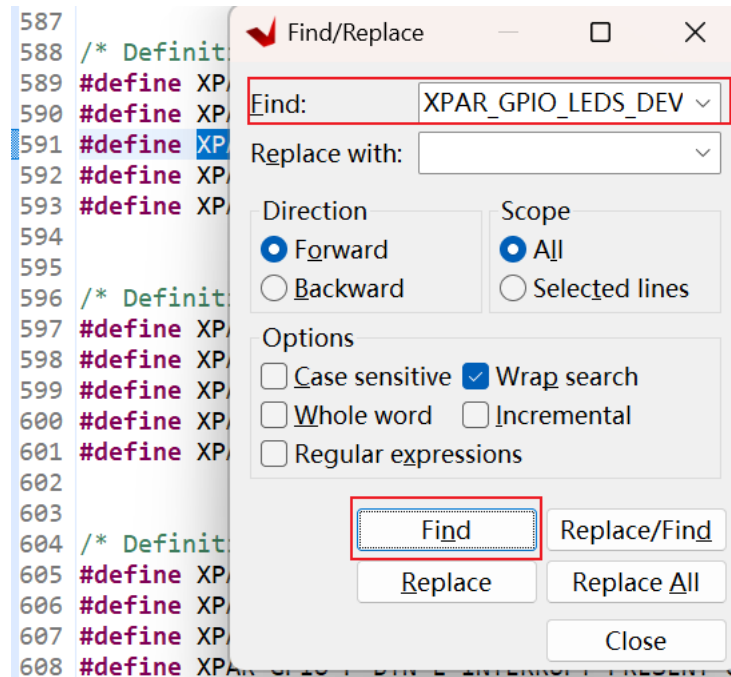

Figure 6.
- As shown in Figure 6, Search for the LED definition (typically named XPAR\_GPIO\_LEDS\_DEVICE\_ID).